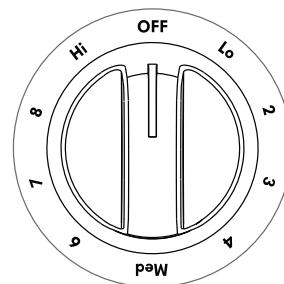

Figure 7: Single surface element control knob
2. Push in and turn the surface element control knob in either direction to the desired setting (Figure 7). Turn the knob to adjust the setting if desired.